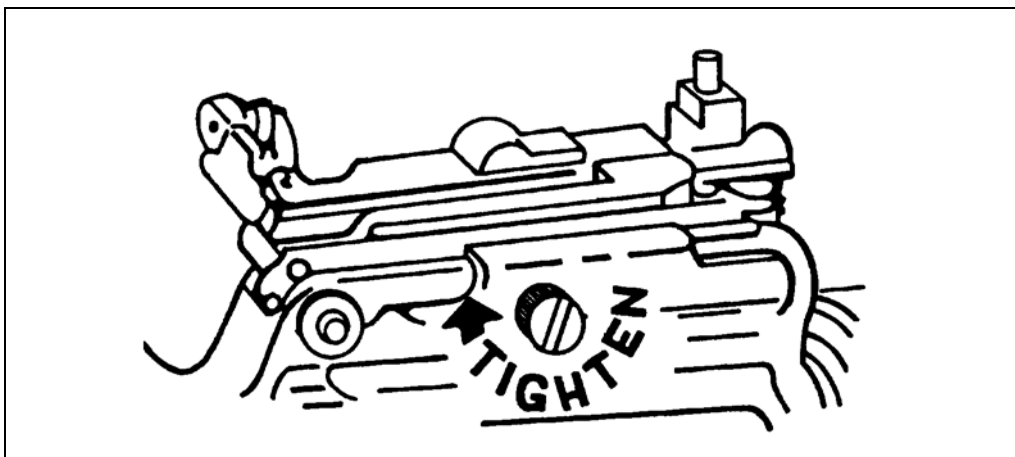

Figure 3-25. Installing the quadrant sight assembly.
- d. Install the quadrant sight assembly (Figure 3-25).